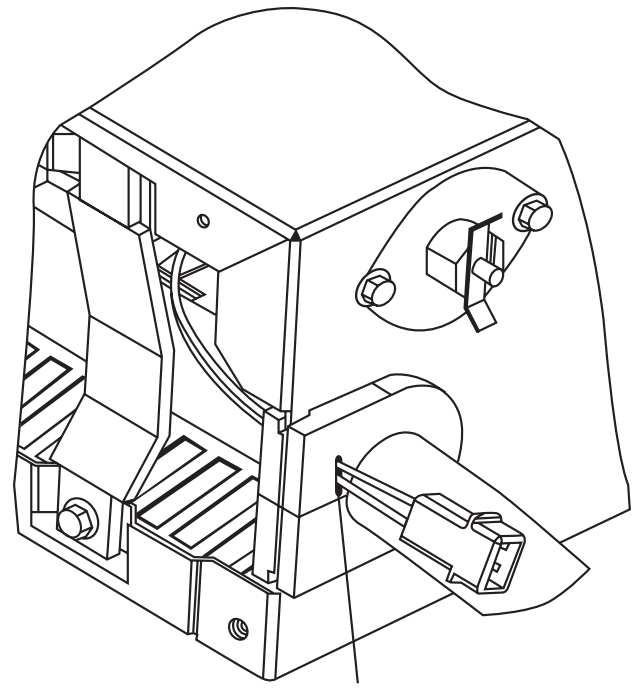

Fig. 20 – Igniter Wire Placement Silicon Nitride Only
- a. Remove caps that conceal adjustment screws for low- and high-heat gas-valve regulators. (See Fig. 20 and 21.)